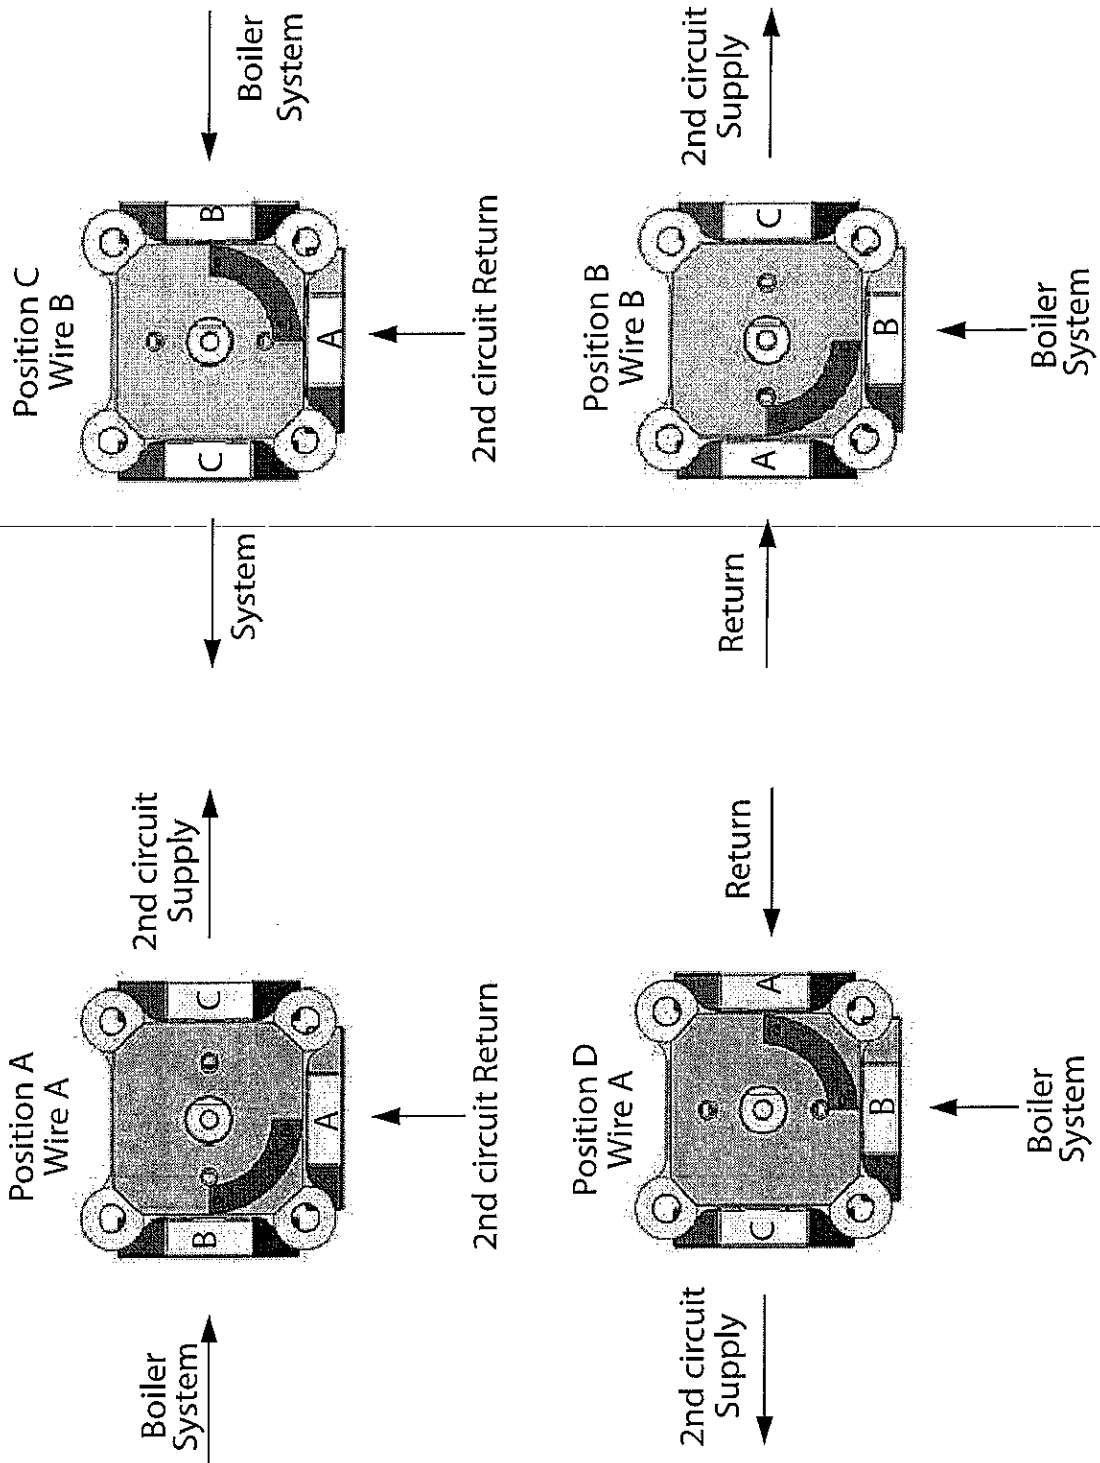
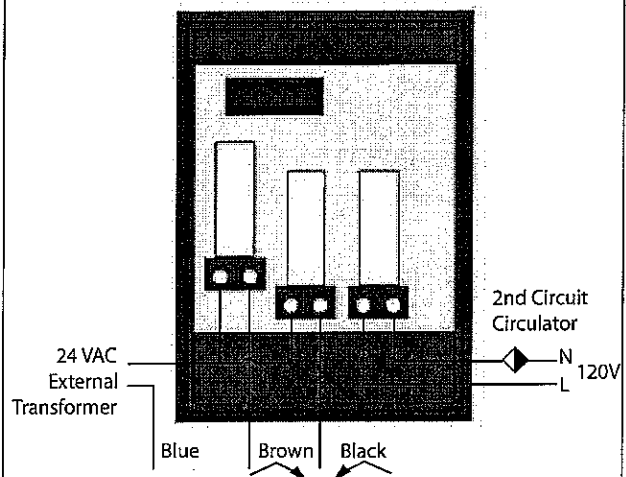

Fig. 2 : Valve Configuration and Face Plate Orientation
Fig. 5 : AM3/ Valve Configuration Wiring
Reference Fig. 2 on page 4 for proper valve configuration and face plate orientation
Note: Wire "A" Diagram see Fig. 2 for Valve configuration on page 3.
Note: Wire "B" Diagram see Fig. 2 for Valve configuration on page 3.
Reference Fig. 5 for AM3 wiring based on valve configuration.
4. Reference the valve orientation and wiring diagrams in Fig.2, page 4 and Fig. 5, page 5 to determine proper rotation of the valve for the appropriate flow pattern.
2. The circulator must be connected in series with the AM3 module through terminals X1-1 and X1-2. See Fig. 5, page 5.